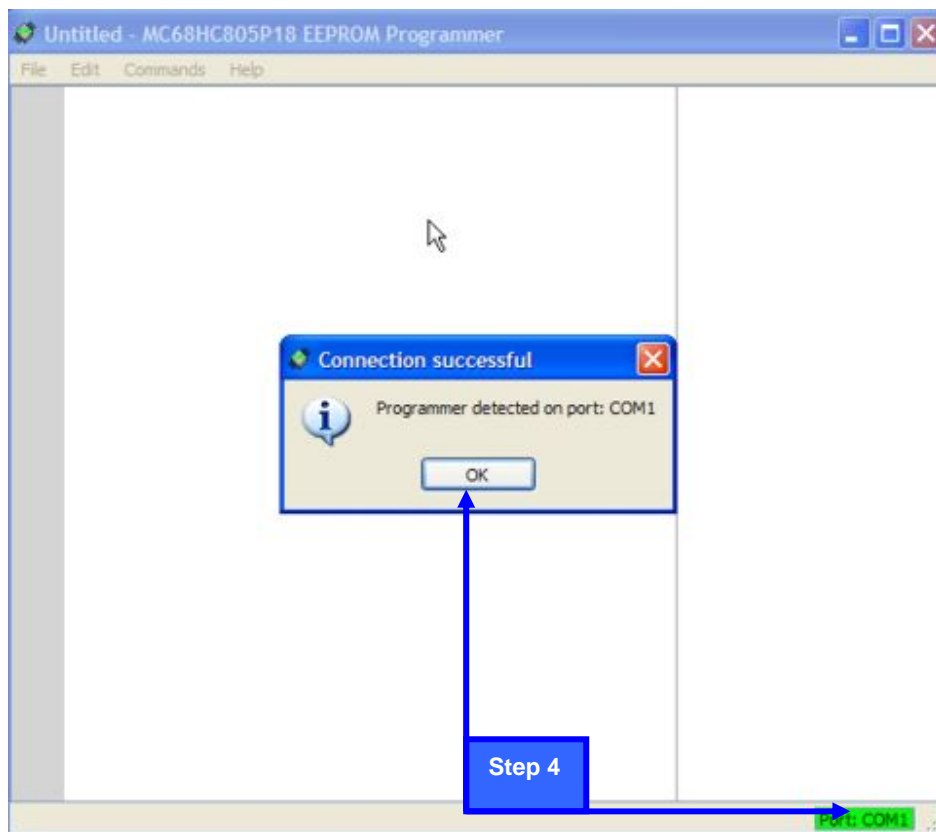

Figure 5
- ▶ If you have chosen auto connection, on success you'll see message box "Programmer detected on port: COM (number)" Step 4; Figure 5